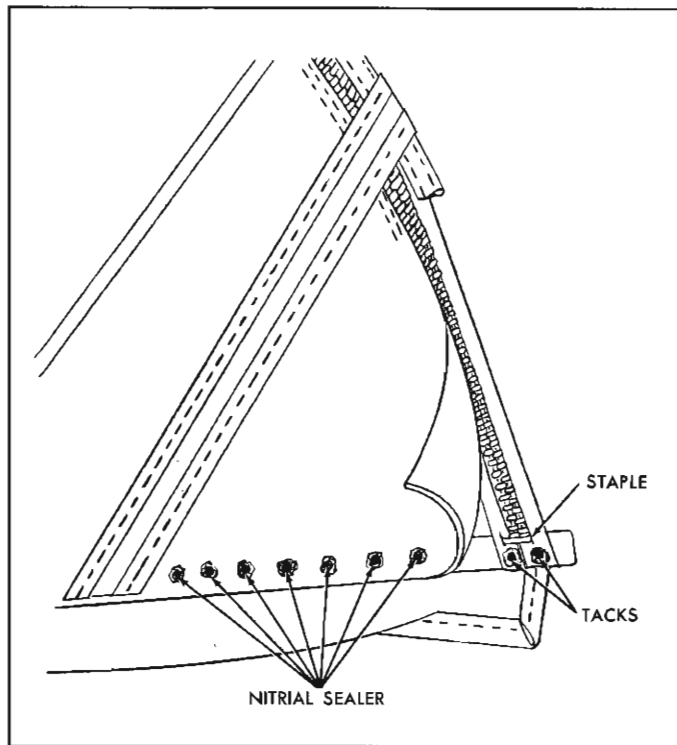

Fig. 81—Sealing at Rear Quarter Trimstick
12. Staple both sections of zipper tape together. Staples will aid in preventing zipper scoops from disengaging and also serve as a stop for the slide fastener (fig. 81).
14. Tack zipper tape to rear quarter trim stick (fig. 81). Zipper tape should not be pulled taut as zipper teeth may show through top material after top has been properly installed.
18. Apply convertible top sealer (nitrile) around each tack head used to secure back curtain material and webbing to rear and rear quarter trim sticks (fig. 81).